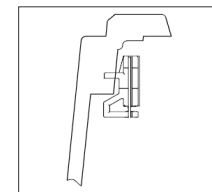

Figure 3
4. Attach mounting clips to the sink body by pushing them into the slots on the sink (Figure 3).